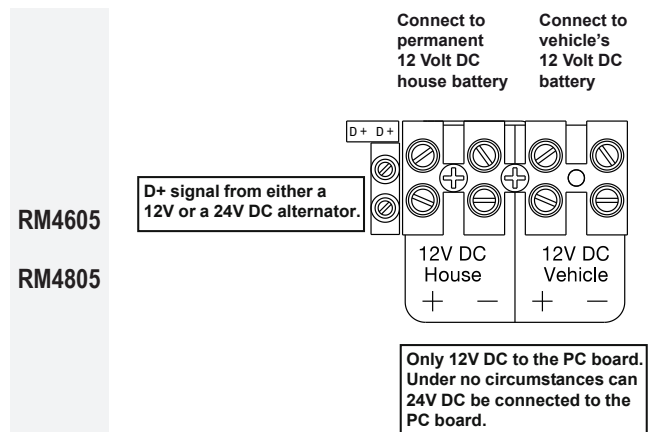

Fig. 20
**RM4605 and RM4805:** One terminal is marked "12V DC House" and the other "12V DC Vehicle", see Fig. 20.